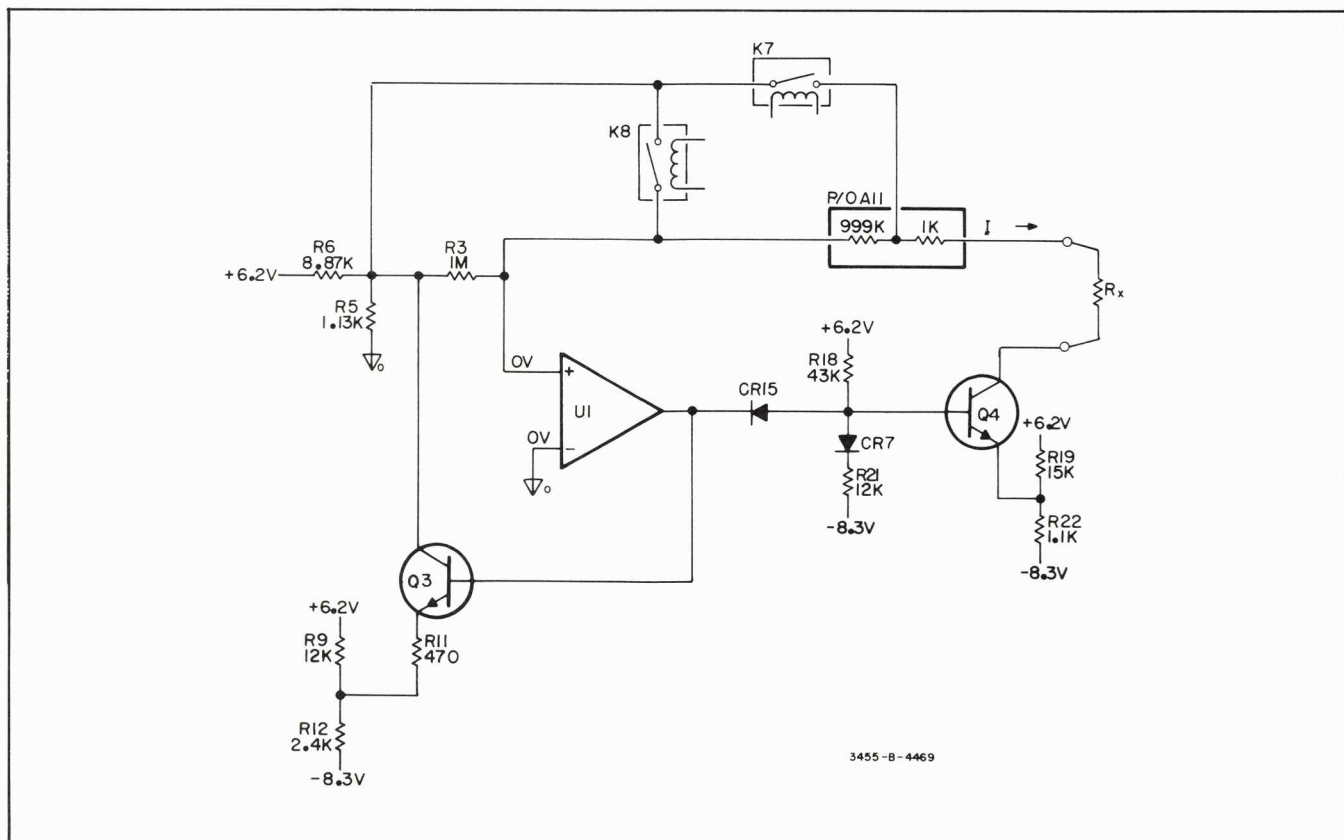
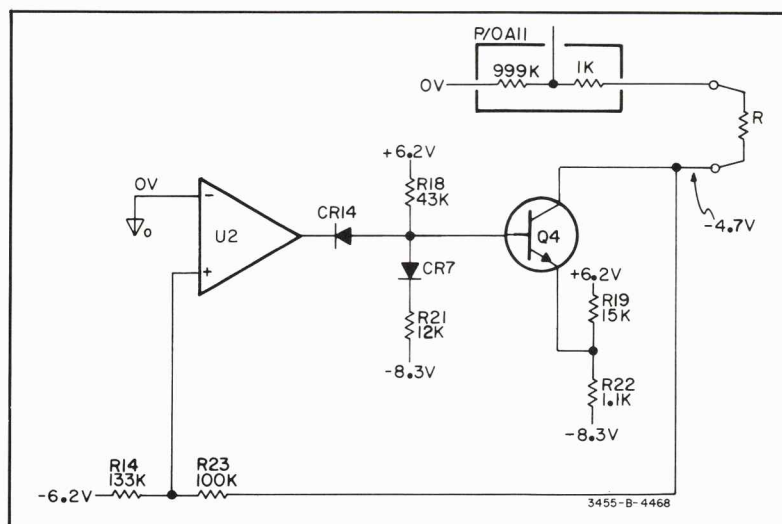

Figure 8-21. Ohms Converter Current Source.
Figure 8-22. Ohms Converter Voltage Limit.
**8-70. Current Source.** Figure 8-21 shows a simplified schematic of the current source used in the ohms converter. The circuit is designed to provide an output current of .7 mA or .7  $\mu$ A. Output current is determined by resistors R3, R5, and R6. During the .7 mA mode of operation, (100 ohm through 100 kilohm ranges) relay K8 shorts resistor R3. The output current is then determined by R6 and is equal to the reference voltage (+ 6.2 V) divided by the resistance of R6, or  $I_O = 6.2/8.87 K = .7$  mA. During the .7  $\mu$ A mode of operation, (1 megohm and 10 megohm ranges) both K7 and K8 are open. Resistors R5 and R6 form a divider which divides the + 6.2 V reference to + .7 V. The output current is now determined by the .7 V across R3 or  $I_O = .7 V/1 M = .7$   $\mu$ A. Operational Amplifier U1 drives output transistor Q4 and provides the gain necessary to maintain the proper output current. Relay K7 is used to select a reference resistance of 1 kilohm for the .1 kilohm through 10 kilohm ranges or 1 megohm for the 100 kilohm through 10 megohm ranges. Both the reference resistance and the unknown resistance are in the feedback circuit of the operational amplifier.
**8-71. Voltage Limit.** Figure 8-22 shows a simplified schematic of the voltage limit circuit used in the ohms converter. During the current mode of operation the non-inverting input of U2 is positive, as referenced to ohms ground. In this mode the positive output of U2 is blocked by CR14, making the voltage limit circuit inoperative. As the resistance of  $R_x$  is increased the collector voltage of Q4 becomes more negative. This change is coupled to the non-inverting input of U2 through the voltage divider composed of R14 and R23. As the input of U2 approaches 0 V the output reverses polarity and forward biases CR14. At this point U2 takes control of output transistor Q4 and maintains a constant voltage of approximately -4.7 V dc at the collector. During the time the ohms converter is in the voltage limit mode, transistor Q3 supplies the feedback necessary to balance the current source circuit (see Figure 8-21). The converter operates as a voltage source when measuring resistances greater than 5.8 kilohm on the 100 ohm through 100 kilohm ranges and greater than 5.8 megohm on the 1 megohm and 10 megohm ranges.